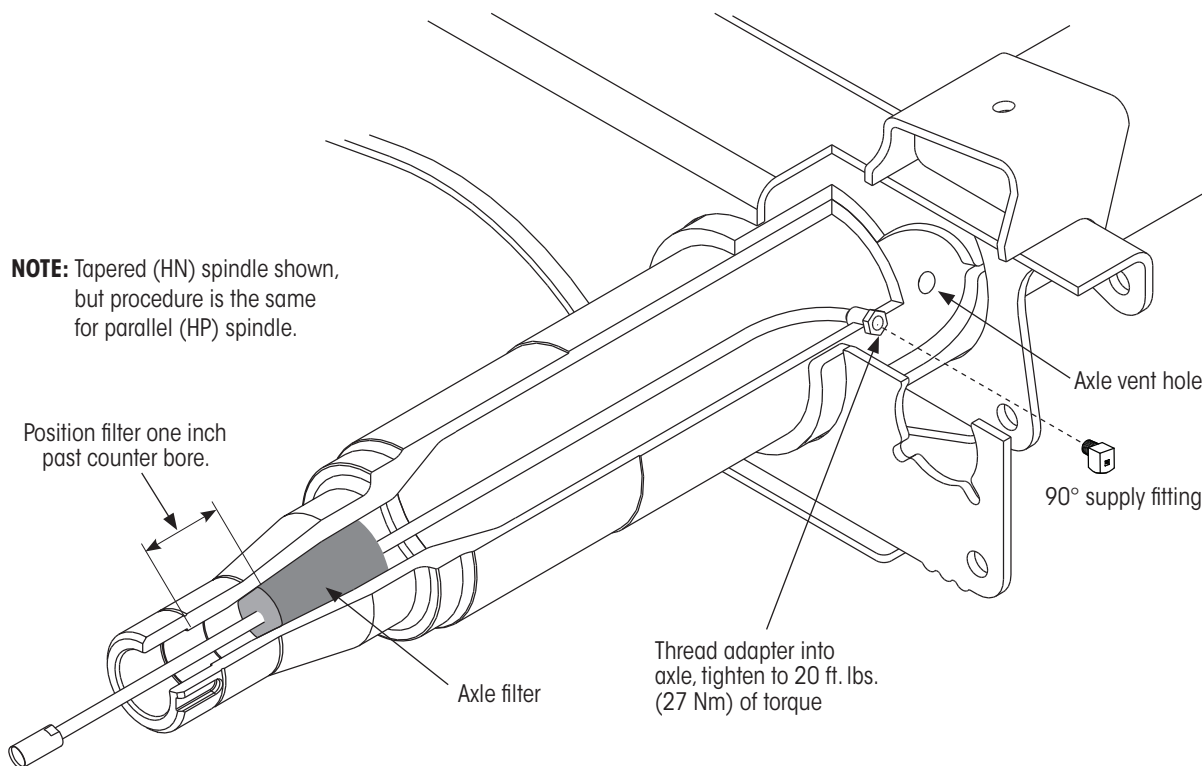

Figure 8: Installed position of axle hose assembly
- » Push the axle filter into the spindle cavity (Figure 8).